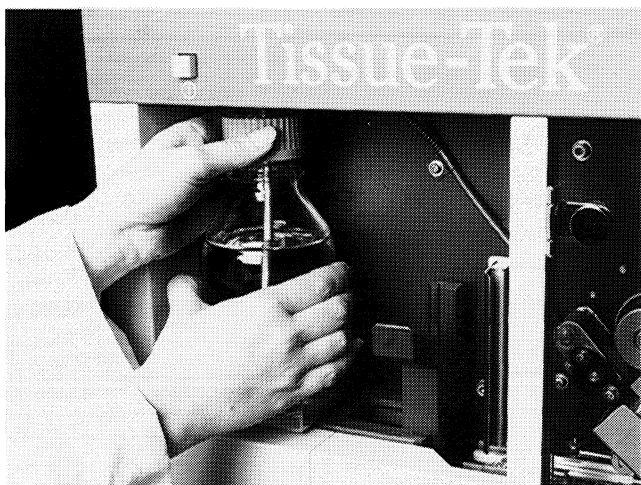

Figure 6-3
1. Unscrew the lid of the bottle by turning the bottle clockwise (Figure 6-3).